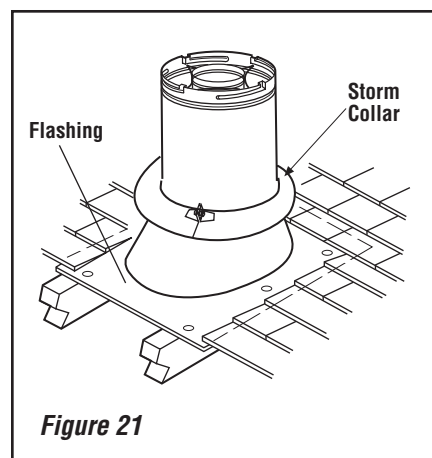

Figure 21
I. Install the roof flashing—Extend the vent sections through the roof structure. Install the roof flashing over the vent section and position such that the vent column rises vertically (use carpenter's level) (**Figure 21**). Nail along perimeter to secure flashing or adjust roofing to overlap the flashing edges at top and sides only and trim where necessary. Seal the top and both sides of the flashing with waterproof caulking.
J. Install the storm collar—Install the storm collar, supplied with the flashing, over the vent/flashing joint (see **Figure 21**). Loosen the storm collar screw. Slide collar down until it meets the top of the flashing. Tighten the adjusting screw. Apply non-combustible caulking or mastic around the circumference of the joint to provide a water tight seal.